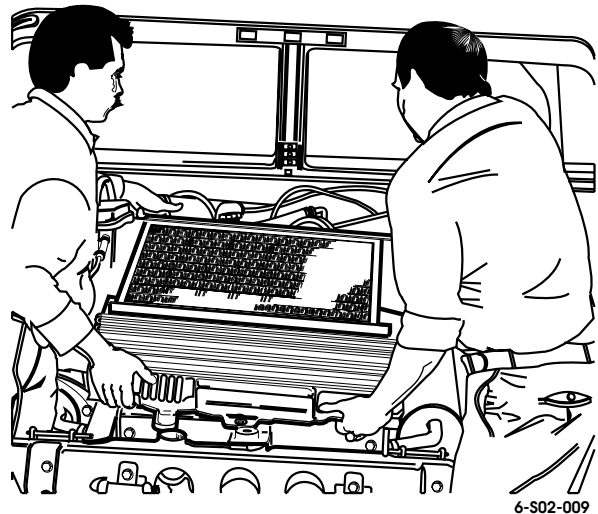

Figure 2-53: Radiator, Cooler, Fan Shroud Removal/Installation
17. Remove bolts attaching radiator and shroud assembly to frame and brackets. Then (with aid of helper), remove radiator, shroud, condenser, and oil coolers as an assembly Figure 2-53.